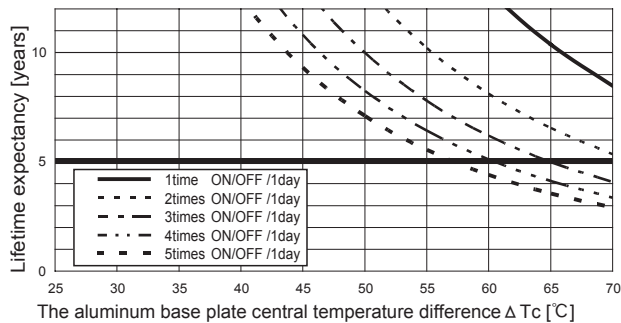

Fig.7.1 Lifetime expectancy against rise/fall temperature difference
■ Product lifetime expectancy depends on the aluminum base plate central temperature difference (ΔT_c) and number of cycling in a day is shown in Fig.7.1.